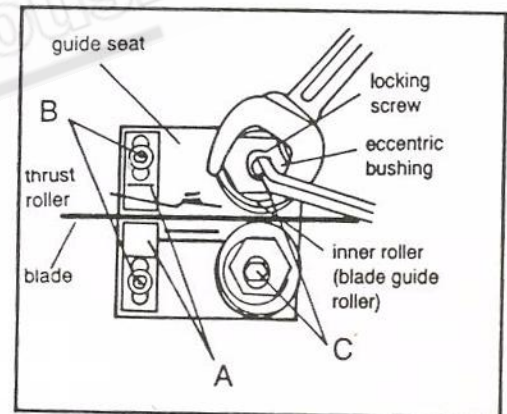

Fig. 10
2. Loosen blade guides (A, Fig. 10 ) by loosening screws (B, Fig. 10 ). Slide blade guides away from blade.
3. Loosen locking screws (C, Fig. 10 ) by using a hex wrench.
5. Tighten locking screws (C, Fig. 10 ).
6. Slide blade guides back into contact with blade and tighten screws (B, Fig. 10 ).